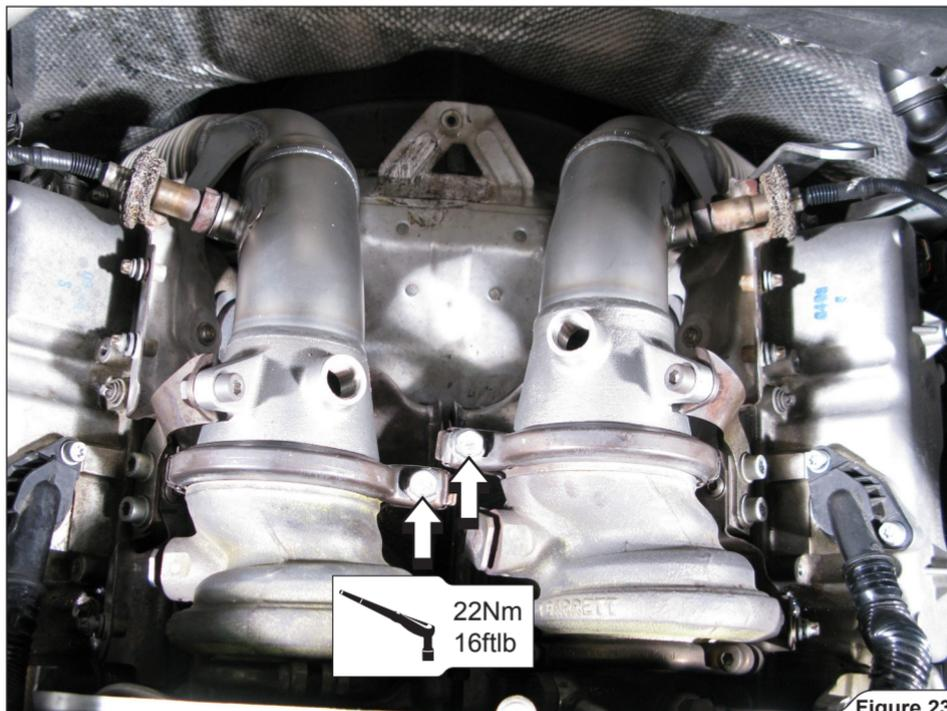

Figure 23
3. For optional Down Pipes only: tighten the down pipe clamps to the specified torque (**Figure 23**).